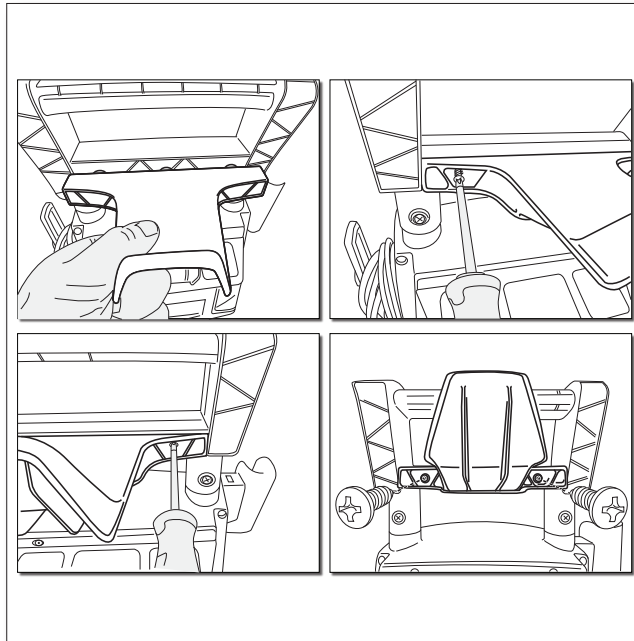

Fig. 1
- Install the hose hook on the back of your BLUE CLEAN POWER WASHER (**Fig. 1**) handle. You'll notice where the hose hook meets the back of the unit. Place the screws in the holes provided on the high pressure hose hook and screw them in. Do not use a power screwdriver. When the screw is completely tight, give a small final clockwise twist of the screwdriver. Do not over tighten.